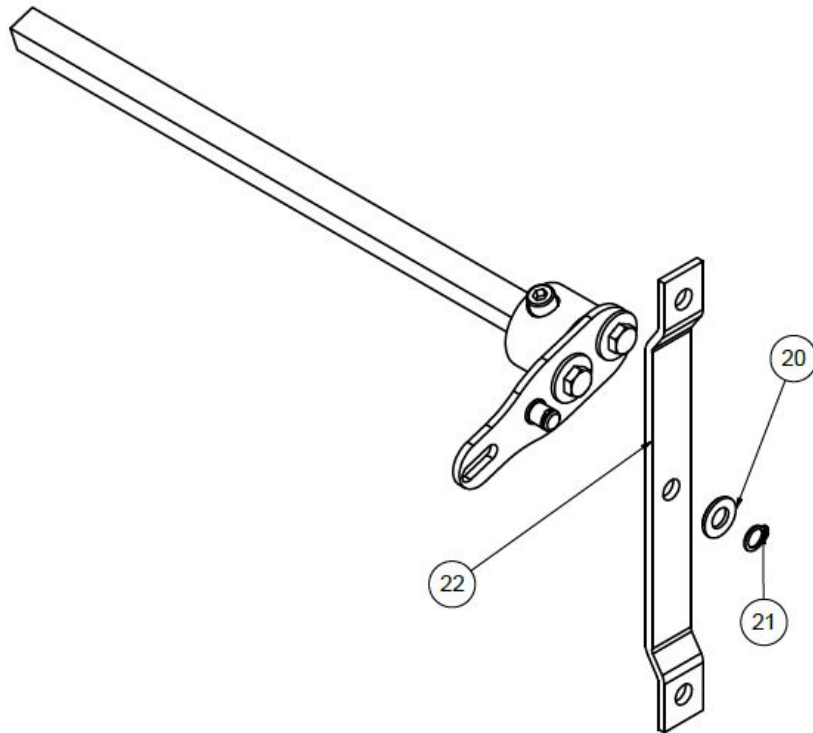

Figure 2
Insert one of the arms, screwed to the handle, into the governor linkage (22) using the DIN 125-1 B B 10.5 washer (20) and the DIN 471 10 x 1 (21) circlip. See Figure 2.